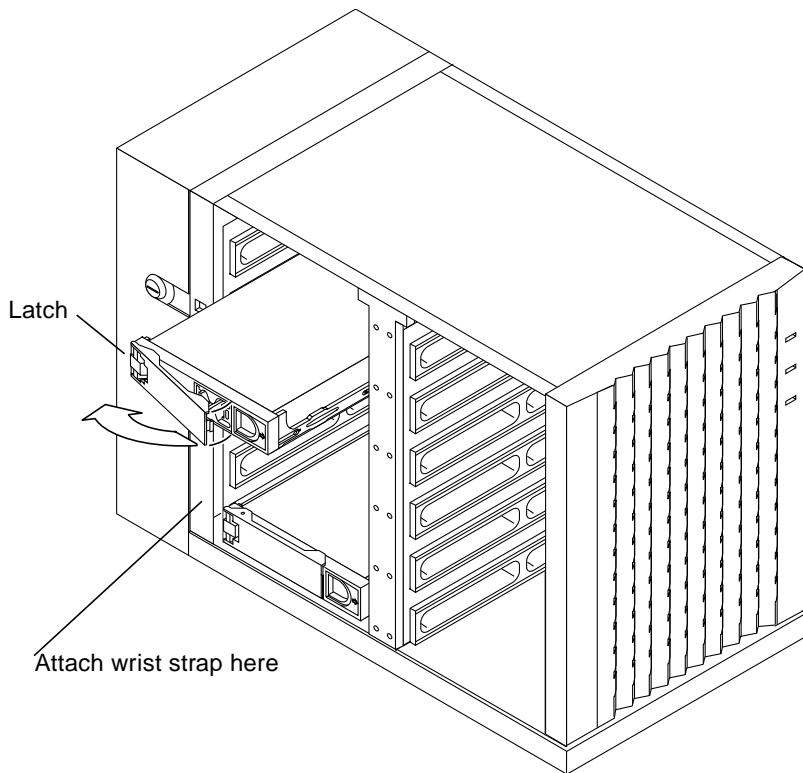

FIGURE 2-3 Removing theDisk Drive
3. Attach a wrist strap to your wrist and to the section of chassis exposed at the left of the drive bays (FIGURE 2-3).
- 1. With the bracket extended, insert the disk drive into the drive bay, aligning the connector on the drive with the connector on the backplane (FIGURE 2-3).**